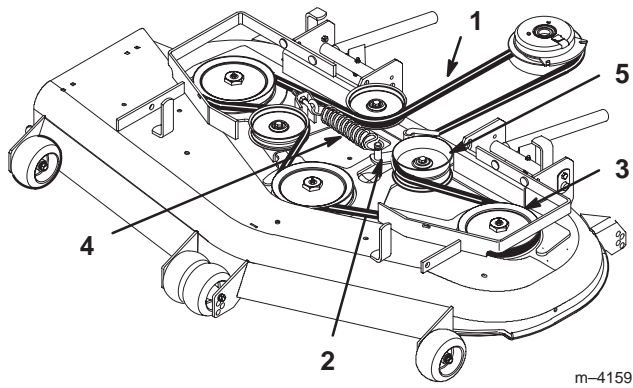

Figure 57
4. Remove belt. Start at outside pulley and rotate off (Fig. 57).
7. Reinstall idler pulley and route belt onto other pulleys (Fig. 57).